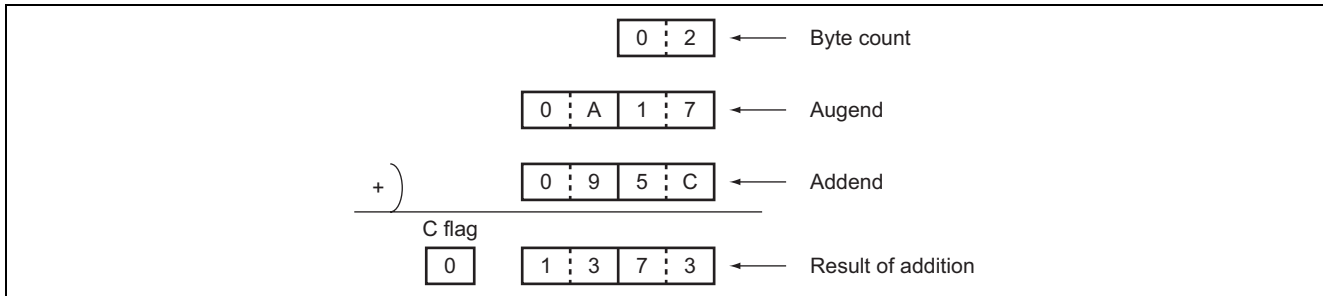

Figure 3 Example of Addition with Upper Bits Unused
1. When the upper bits are not used (see figure 3), set them to 0. The software ADD2 performs byte-based addition; when 0 are not set in the unused upper bits, a correct result cannot be obtained because the addition is done on the numbers including indeterminate data.